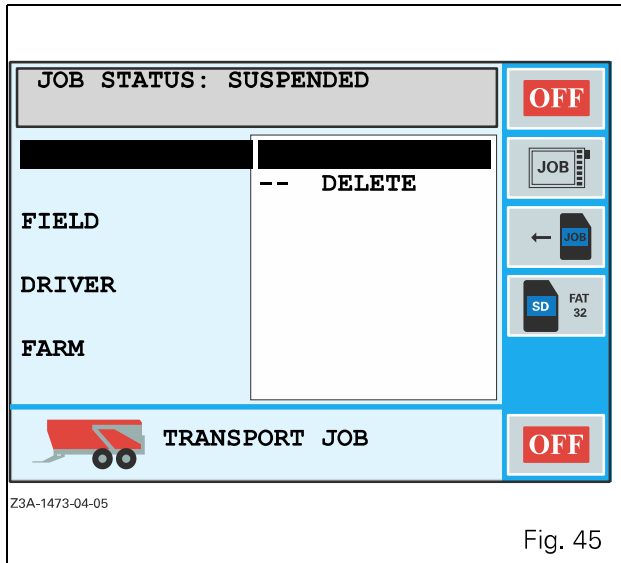
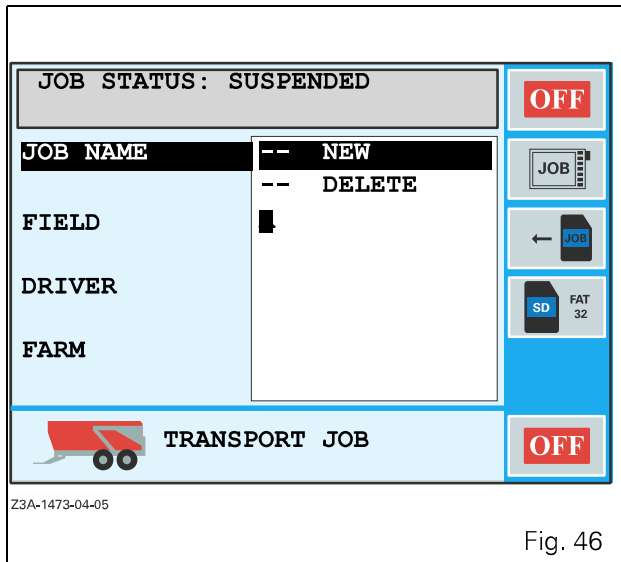

Fig. 45
Fig. 46
- When the window (Fig. 45) is open, press the encoder. The window (Fig. 46) is displayed.
- Select the DELETE line using the encoder when the window (Fig. 45) is open.
- Validate by pressing the encoder, and the window is displayed (Fig. 45).